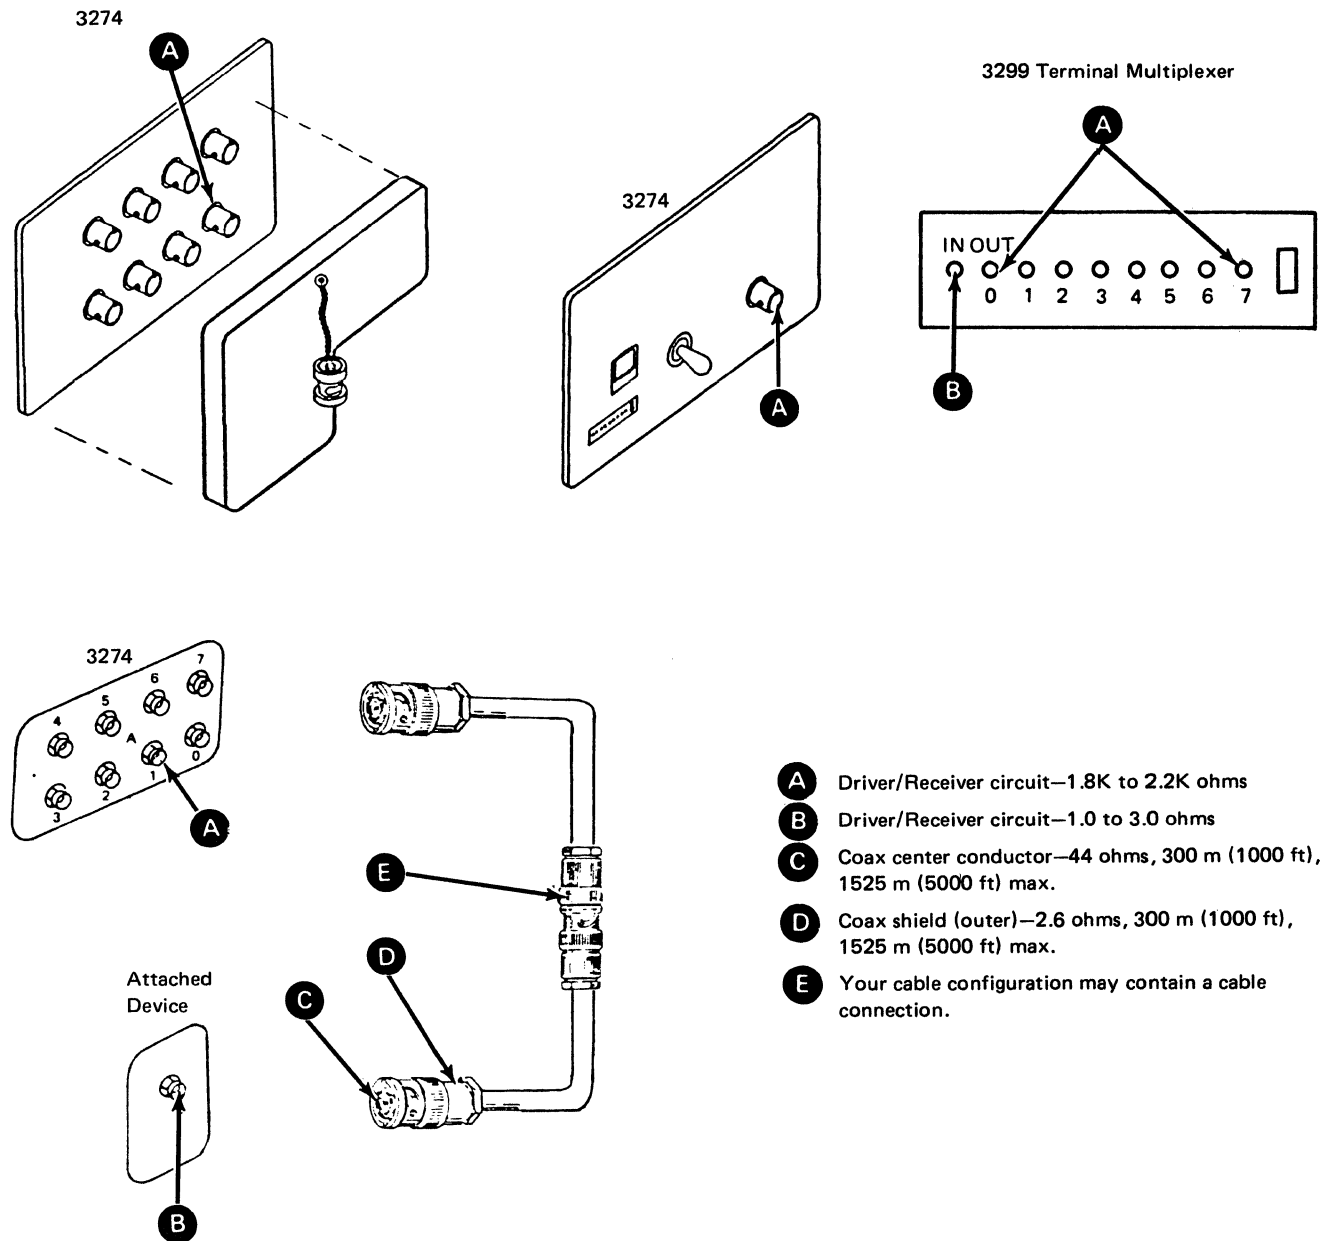

Figure 2-5. Coax Cable (Driver/Receiver) DC Resistance
D.1 DC Resistance Test (to attached device or 3299 Terminal Multiplexer input). See Figure 2-5 **B**.
- D.2 DC Resistance Test (to the 3274 or the 3299 Terminal Multiplexer output. See Figure 2-5 **A**).